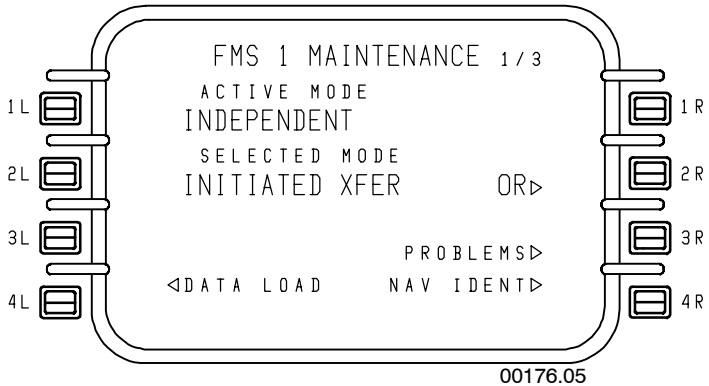
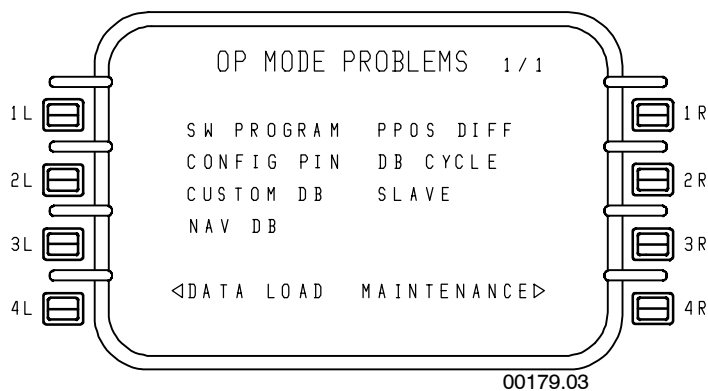

Figure 6-186
Figure 6-188
- **MAINTENANCE 1/3** - Figure 6-186 is dedicated to selecting and confirming the operating mode of dual FMSs. In Figure 6-186, the selected mode is INITIATED TRANSFER but the active mode is INDEPENDENT.
If the active mode is not the same as the selected mode, it is because of some problem. In this case, the PROBLEMS prompt (3R), shown in Figure 6-186, is displayed and can be selected.
Selecting the PROBLEMS prompt displays the OP MODE PROBLEMS page. This is shown in Figure 6-188. The OP MODE PROBLEMS page lists the problem(s) preventing the FMSs from operating in the selected mode. After the problems are resolved, the FMS can operate in the selected mode. If an automatic reversion to independent is made from initiated transfer or dual, the PROBLEMS prompt at 3R (Figure 6-186) is replaced with RET TO SEL MODE when the problem is corrected. The pilot must press this prompt to return to the selected mode. Refer to Table 12-2, on page 12-8, for the definition of messages displayed on this page and the actions that can be performed to resolve the problem.